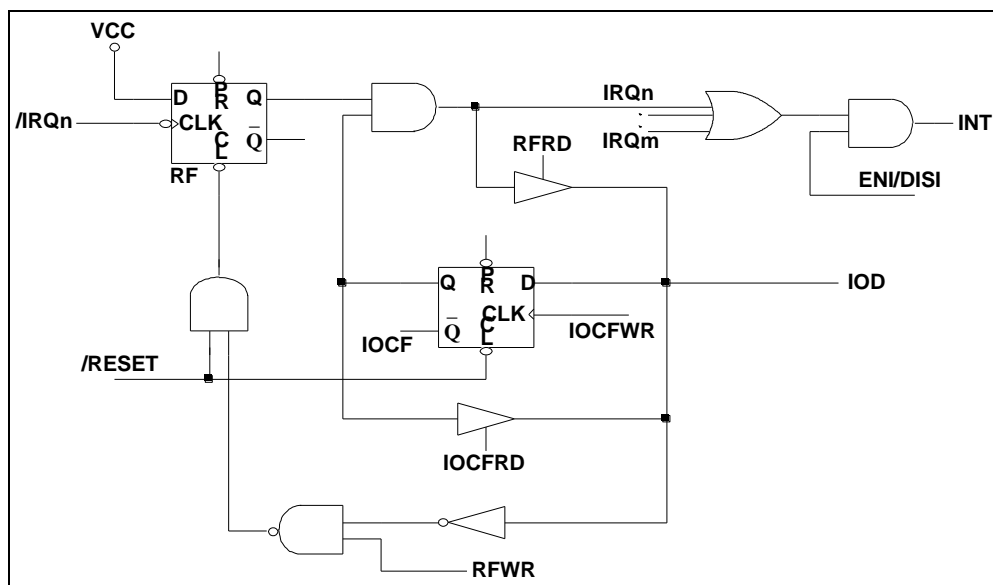

Figure 6-9 Interrupt Input Circuit
The flag (except ICIF bit) in the Interrupt Status Register (RF) is set regardless of the status of its mask bit or the execution of ENI. Note that the outcome of RF will be the logic AND of RF and IOCF (refer to Figure 6-9). The RETI instruction ends the interrupt routine and enables the global interrupt (the execution of ENI).